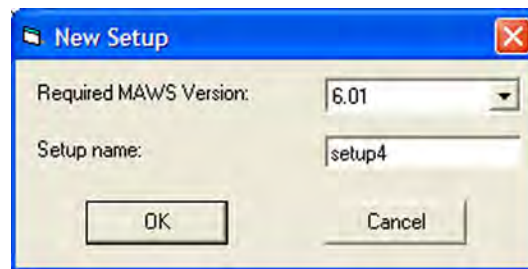

Figure 12 **New Setup Window**
2. Click **New**. The **New Setup** window opens; see Figure 12 on page 35. Name the new setup and select the QML logger version number. The name must be unique and no longer than eight characters. Lizard automatically suggests the highest possible version number. Enter the name and, if necessary, change the version number, and click **OK**.